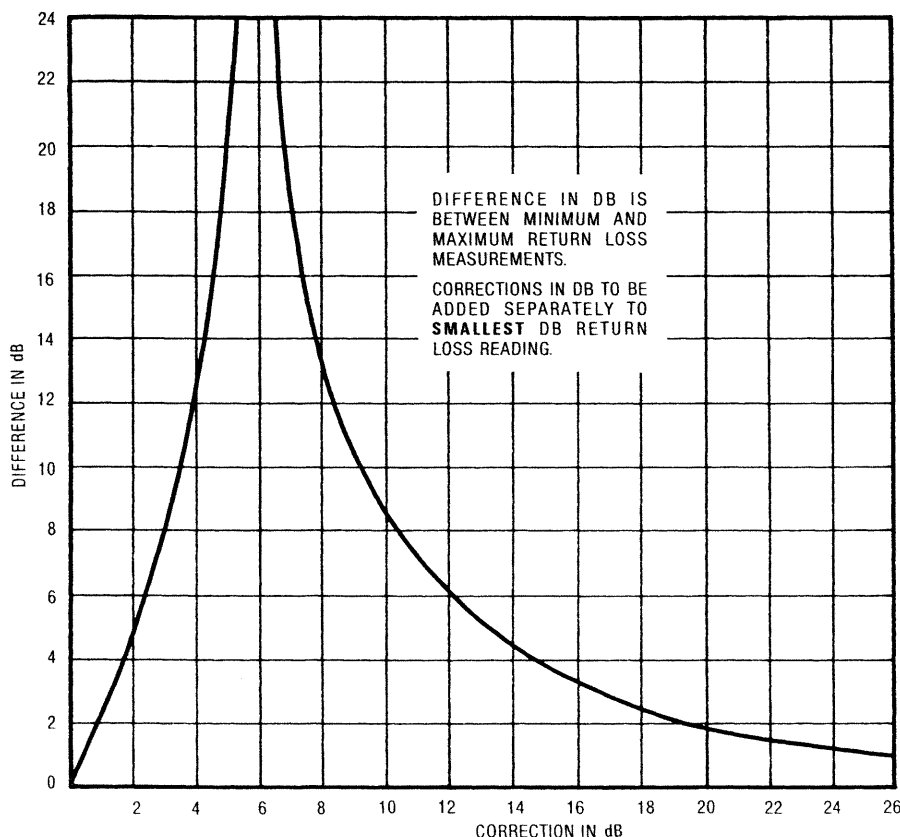

Figure 4-3. Signal Separation Chart
11. For each frequency, the maximum and minimum measured return loss values correspond to the directivity signal and the sliding load signal adding and subtracting. You can separate these two signals with the Signal Separation Chart, Figure 4-3. Calculate the difference in dB between the maximum and minimum measured return loss for each frequency and locate this value on the vertical axis of Figure 4-3. Draw a horizontal line across the chart from the point just located and note the two places where it intersects the curves. The intersections are the two correction values in dB. Add each of them to the **minimum** measured return loss. The resulting two corrected values are the directivity signal and the sliding load reflected signal.